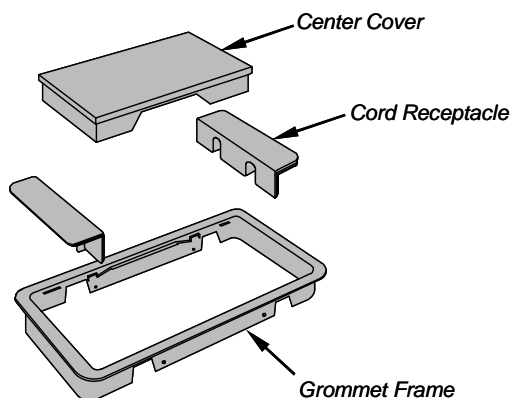

Figure 8A
- Remove the center cover and slide out the cord receptacles. **Figure 8A.**